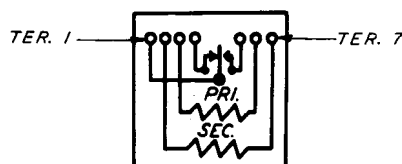

FIG. 19 - WINDING AND SPRING TERMINAL ARRANGEMENT AS VIEWED FROM THE REAR (TERMINAL SIDE) - 206, 227 AND 231 TYPE RELAYS
2.17 As viewed from the front of the relay the contacts are numbered from left to right. The left-hand contact is numbered 1, the armature 2 and the right-hand contact 3 except on relays having a back contact only, in which case the armature is indicated by 1 and the back contact by 2. Where it is required to make contact with the contact or winding terminals from the rear or terminal side, the designation TER followed by the terminal number is specified. Facing the rear of the relay, the terminals are numbered consecutively from left to right as shown in Fig. 19.